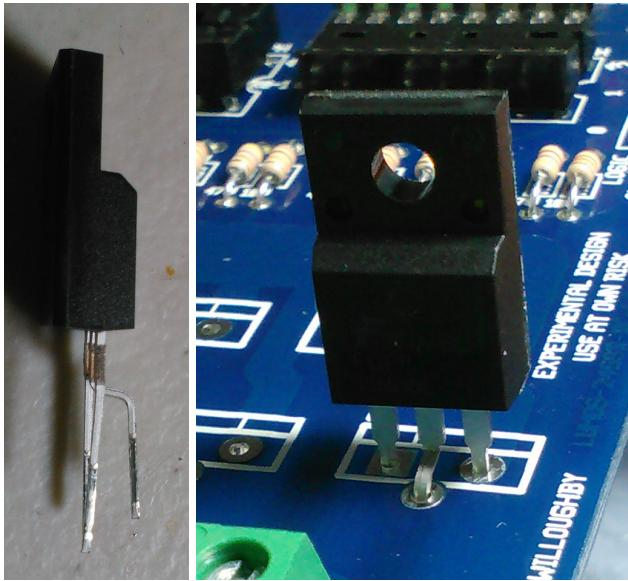

Figure 5.3: Bending the Pins of the MOSFETs
16. Repeat steps 12–15 to install (4) more resistor networks at R2–R5.
18. Install (6) 16-pin DIP sockets XU0–XU5 in positions marked U0–U5. Note that they need to fit easily over the soldered leads from R0–R5. If they don’t, select a different style of socket or carefully trim down the resistor leads.
20. Install (3) 4-position jumper block headers at J6–J8. Solder.
21. Install (3) LM78L05 voltage regulators at U6–U8. **These parts will not function unless oriented correctly.** Note the flat side on the component case. This aligns with the flat side drawn on the circuit board. Apply heat protection while soldering in place, and/or limit soldering time to 4 seconds or less. Use ESD protection.
22. Install (3) fuse holders at F0–F2. Due to the wide PCB traces here, this may require extra soldering time, but be careful not to overheat the parts. The same will be true for steps 23–24.
23. Install (3) 10-position terminal blocks at J0–J2.
24. Install (3) 2-position terminal blocks at J3–J5.
25. Using ESD protection, lay out (12) MOSFETs on your workbench.
26. Prepare each MOSFET by bending the middle lead 90° up toward the front of the transistor body, then move your pliers down the lead another 0.1" and bend it 90° back again, parallel to the other pins again. It should now look like the photo in Figure 5.3 and should fit easily into the holes at Q0 on the PCB.